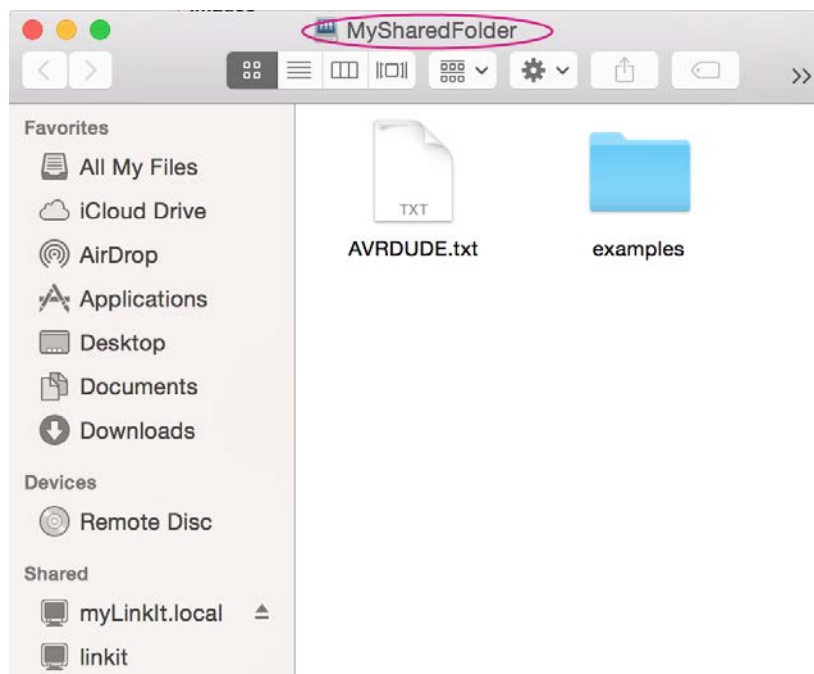

Figure 41 MyShareFolder in Mac Finder
- 4) Check Finder and you'll see MySharedFolder as shown in Figure 41. You can now transfer files in this folder.